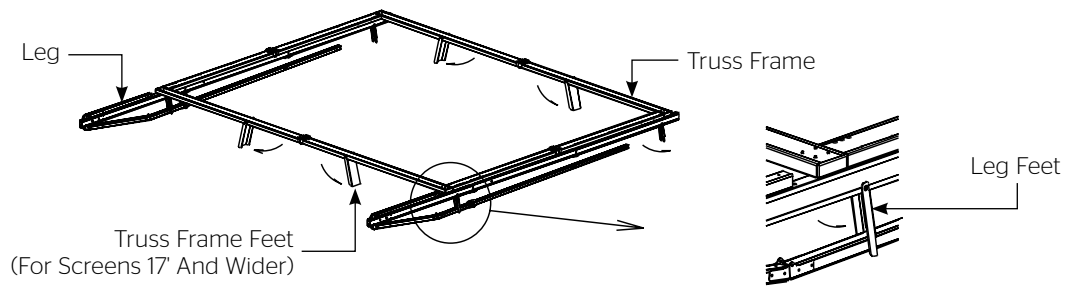

Figure 4
3. Attach Heavy Duty Fast-Fold® Deluxe legs to side frame members at desired height, using Speedy Cranks. Note color tape on legs and frame. When matched, the screen height will be 44" off the floor. If legs are too high, top section or sections may be folded over. Unfold the frame feet (for screens 17' and wider) and leg feet. See Figure 4. Do not tighten Speedy Cranks until all are started, then tighten.